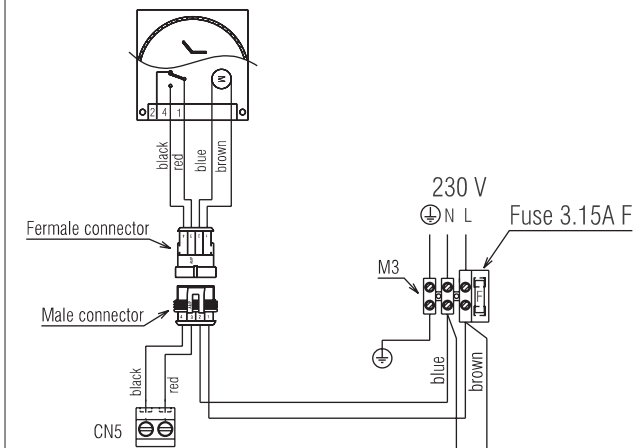

Fig. 39
Disconnect any external controls from terminal plug (CN5 fig. 39), and insert a link-wire between the two wires at the 'TA' connections.
- single-channel, voltage-free time clocks (fig. 39)
- programmable RF room thermostats (fig. 39)